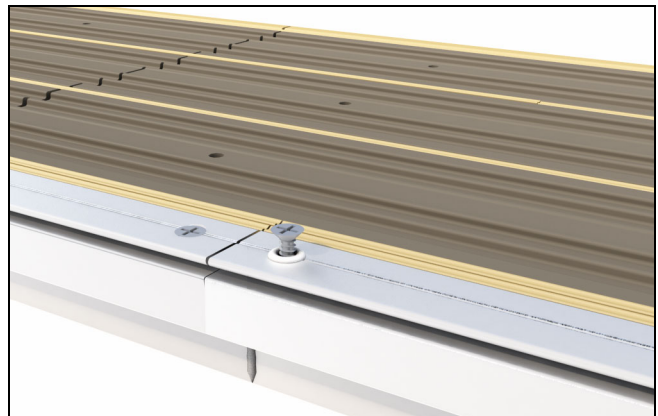

Figure 26
8. Remove other (non-injected) frame cladding splice key screw and inject with sealant until squeeze out occurs in a different location. Install #7 x 5/8" flat head screw. See figure 26.